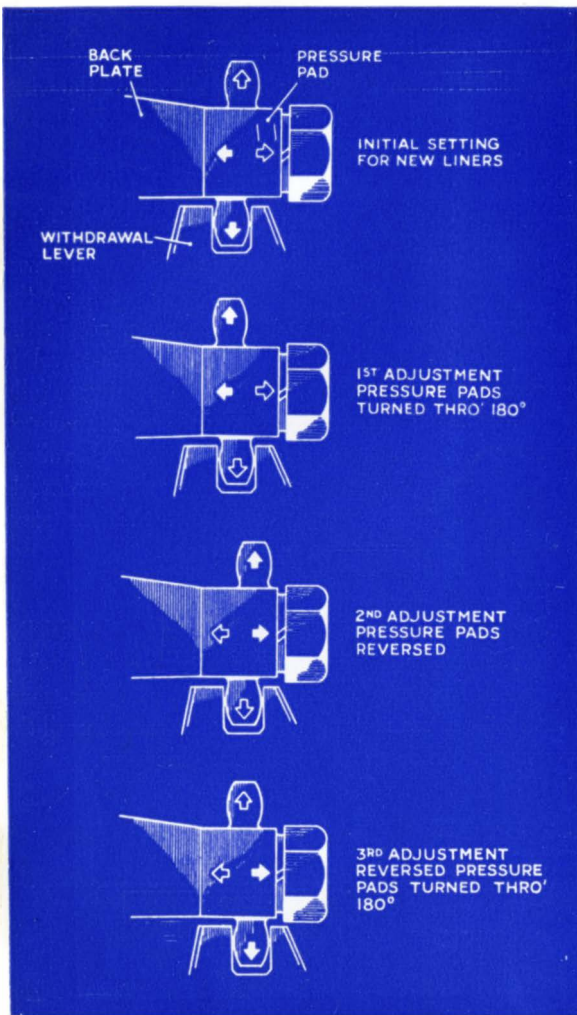

FIG. 9. WITHDRAWAL LEVER ADJUSTMENT
One initial and three service adjustments of the pressure pads ensure that maximum wear is obtained from the liners. The adjustments are made by turning and/or reversing the pads, as shown in Fig. 9.
2. Slacken or remove each pressure pad bolt one at a time and turn and/or reverse the pads, as the case may be. Fig. 9 shows the appropriate change-round of the pads for whichever of the three adjustments is being made at the time.
The pressure pads must be fitted in the initial setting position as shown in Fig. 9, if new liners have been fitted, or one of the other settings marked before dismantling, if the liners have not been renewed.